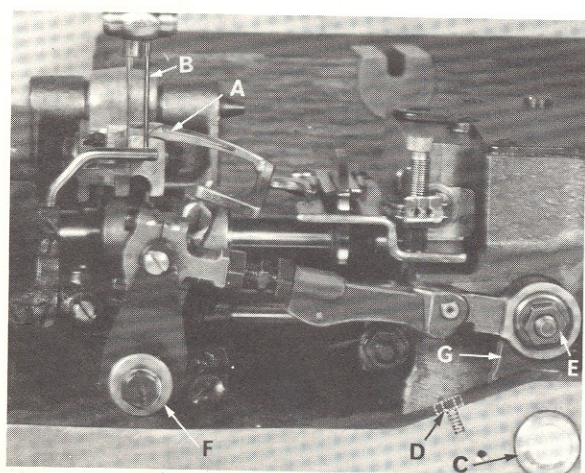
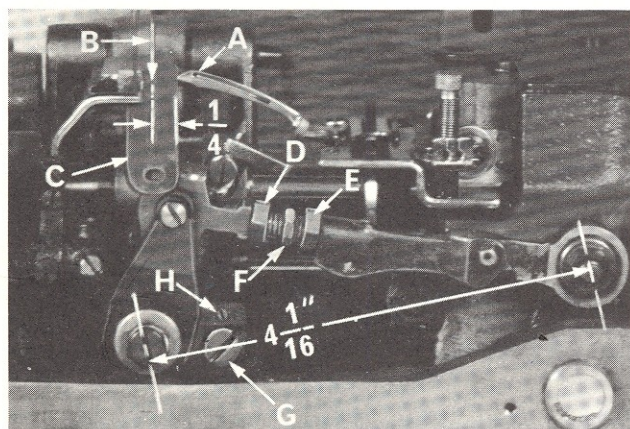

Fig. 5
Fig. 6
Insert the looper in the looper rocker and turn handwheel in operating direction until the point of the looper (A, Fig. 5), moving to the left is even with the left side of right needle (B). Note the height of the eye of the needle with respect to the looper point, then turn handwheel in the reverse direction until the looper point again moves to the left, and is even with the left side of the right needle. If the motions synchronize, the height of the eye of the needle with respect to the looper point will be the same. A variation of .005 inch is allowable. If the distance from the eye of the needle to the point of the looper is greatest when the pulley is turned in the operating direction, move the looper drive shaft synchronizing stud (C) to the rear. Moving it in the opposite direction acts the reverse.
Moving of the looper drive lever shaft synchronizing stud is accomplished as follows: Loosen the clamp screw (D, Fig. 5) of the looper drive lever. To move stud to rear (away from operator), a light tap with a small hammer, directly on the stud, is all that is required. To move stud forward (toward operator), remove the cloth plate, throat plate support, oil reservoir top cover and oil reservoir back cover, then, a light tap on the looper drive lever rocker shaft, toward the operator, is all that is required. Then, using the looper drive lever to take up the end play between the looper drive lever rocker shaft and its synchronizing stud, tighten the looper drive lever on the shaft, using screw (D, Fig. 5).
With the looper at the extreme right end of its travel, check the location of the center line of the right looper connecting rod bearing, using gauge No. 21227 CX. Remove nut (E, Fig. 5) and place hole in gauge over threaded stud. The left end of the gauge should locate against the right side of the looper rocker cone (F). If adjustment is necessary, loosen the clamp screw (D) and reposition the looper drive lever (G) as required. Tighten clamp screw. If gauge is not available setting can be checked with a scale. The distance between the center line of the looper rocker cone and the center line of the looper lever stud should be $4 \frac{1}{16}$ inch (Fig. 6).
Insert a new needle in the right needle seat, type and size as specified. If the looper gauge is $\frac{1}{4}$ inch, for example, set the looper (A, Fig. 6) so the distance from the center of the right needle (B) to the point of the looper is $\frac{1}{4}$ inch, when the looper is at its farthest position to the right. Looper gauge No. 21225- $\frac{1}{4}$ (C) can be used advantageously in making this adjustment. Refer to chart on the following page for needle Type, looper gauge setting and looper gauge number for the various styles of machines. If adjustment is required, loosen nut (D) (it has a left hand thread) and nut (E) on connecting rod (F), turn the connecting rod forward or backward to obtain the $\frac{1}{4}$ inch dimension. Retighten both nuts, first nut (E). Then nut (D).
If adjustment is necessary, loosen lock screw (G, Fig. 6) and turn stop screw (H) as required. Turning stop screw clockwise sets the looper to the rear and turning it counterclockwise acts the reverse. Holding looper to the front while making this adjustment may prove helpful. Tighten lock screw when setting is obtained and recheck the adjustment. Now insert another needle in the left needle seat.